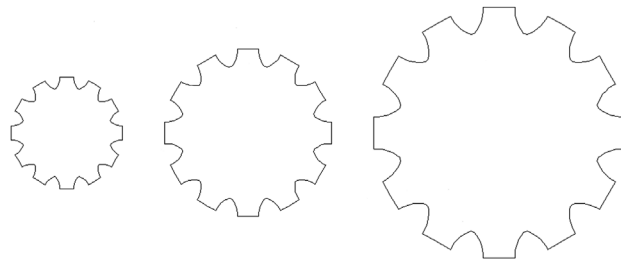

FIGURE 24.30 Drill bit, Step 2.
- Step 2.** Now copy the profile for a total of three items. Make each new copy 1.5 times larger than the previous one using scale, as seen in Fig. 24.30.